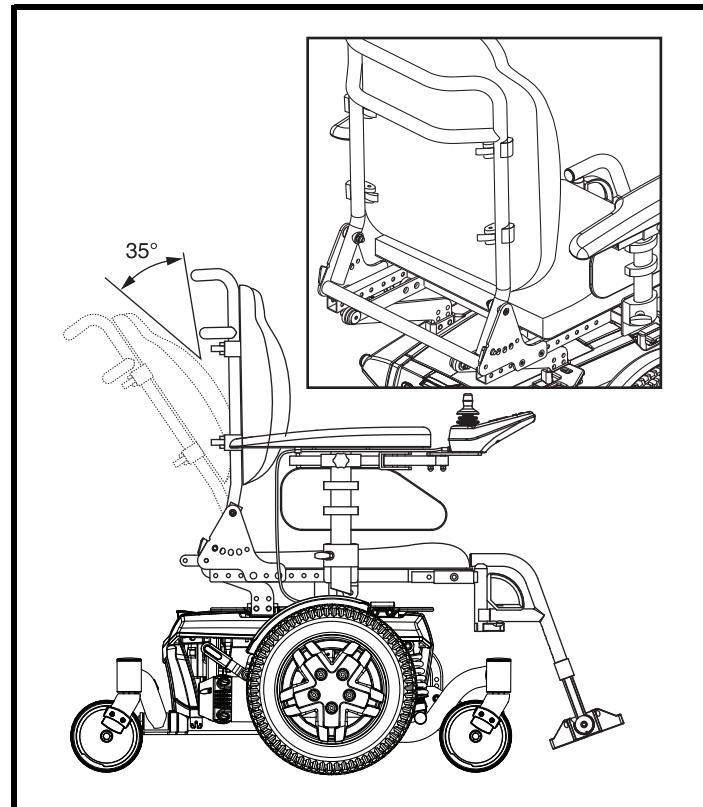

Figure 11. Manual Recline Seatback Adjustment
1. Pull the adjustment strap on the bottom portion of the seatback. See **figure 11**.